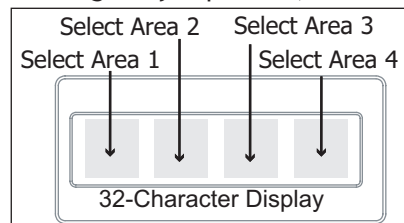

Figure 8: Clear Touch and Graphic Touchscreen Select Areas
**On Clear Touch and Graphic Touchscreen Keypads,** when instructed to press the first Select key, touch Select Area 1; the second Select key touch Select Area 2; third Select key touch Select Area 3; and the fourth Select key touch Select Area 4. See Figure 8.